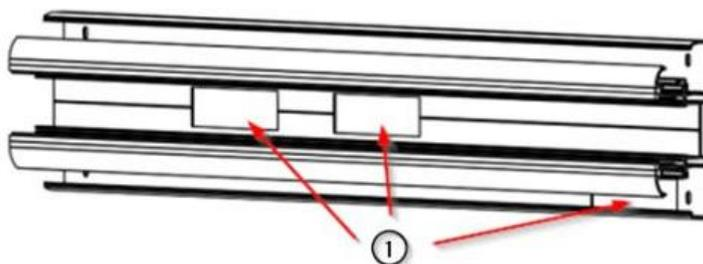
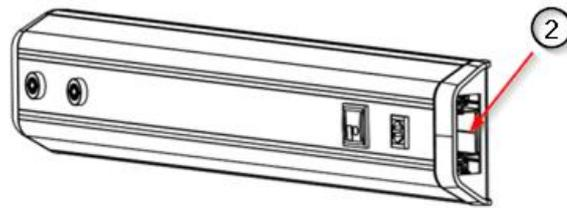

Fig. 1 Supply connections at the rear of the equipment
Fig. 2 Supply connections on the sides of the equipment
There are two possibilities as to the location of these inputs, they can be located at the rear of the equipment ① as shown in figure 1 or they can enter from the sides ② as shown in figure 2.